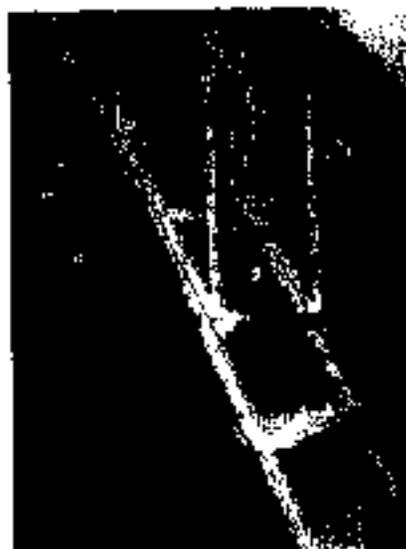

Fig. 3-62 Platform - stairs
- 1 Mount the stairs to facilitate access to the platform (fig. 3-62).